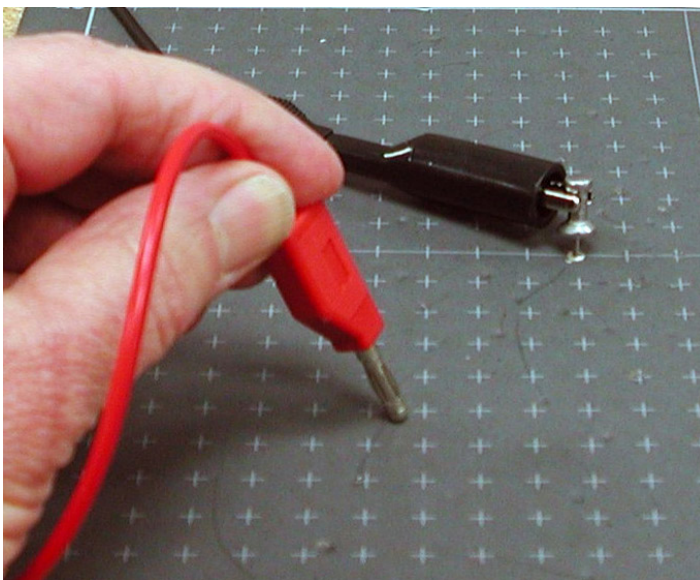

Figure 4: Probe Position
2. Trace the 3.0 V equipotential. To do this locate a place on the paper near the negative electrode where the voltage is 3.0 V. Try to keep the probe at the same angle (see Figure 4 for example) and use the same pressure for each reading (the voltage is pressure sensitive). When you find a 3.0 V spot apply more pressure and rotate the probe to make a small depression in the paper (some depressions show in Figure 4). Then locate more 3.0 V spots to make a surface (actually a line) surrounding the negative electrode. *Hint: near a point electrode, the 3.0 V equipotential should be roughly circular. For other electrodes, the 3.0 V equipotential should roughly be roughly parallel to the electrode. Important Hint: this is not a very precise experiment. 3.0 V means roughly within a few tenths of a volt. Do not waste time trying to find the exact spot! The values will change by several tenths of a volt (or more if you bump the electrodes). This process is meant to be quick and dirty.*